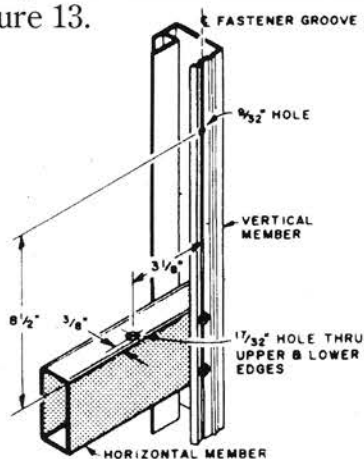

Figure 14
Select a horizontal door member that is at a convenient height and drill one (1) 17/32" diameter hole as shown. Next drill one (1) 9/32" diameter hole in the vertical door member. Refer to Figure 14 for hole location.